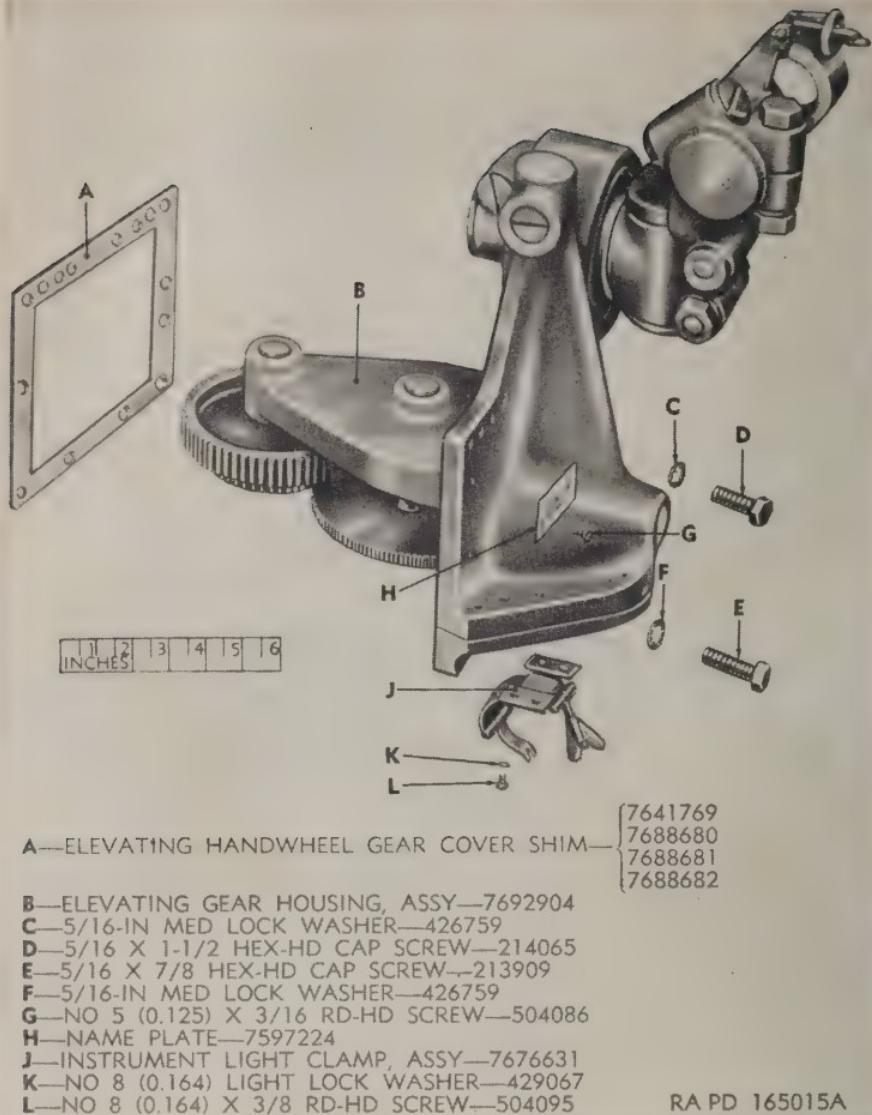

Figure 41. Telescope mount M32—removal of mount and components—exploded view.
a. Remove the 10 hex-head cap screws (D and E, fig. 41) that secure the telescope mount to the side of the elevating mechanism of the gun mount.
Note. Be careful not to damage the gear teeth of the telescope mount or the elevating mechanism of the gun. Carefully remove the shims (A, fig. 41) from the mount.
III. Removal of the Instrument Light Clamp Assembly (fig. 41)
(fig. 41)